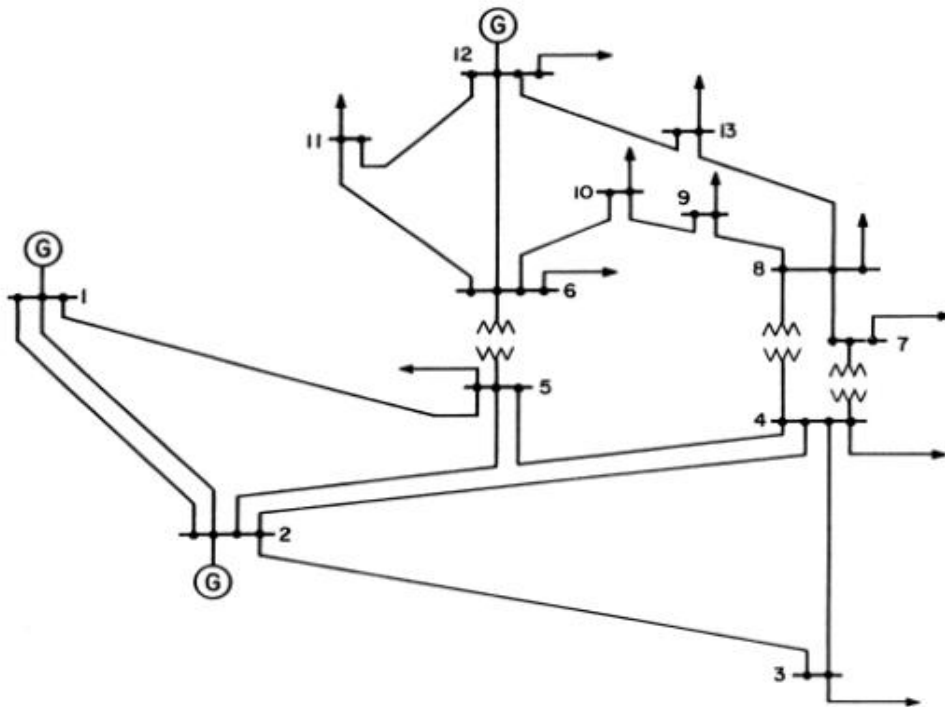

Figure 1. A single-line diagram of 13 Bus Power System
Problem Statement: You will have to solve the load-flow problem for a typical 13-bus power system which is shown in Figure 1, based on the data provided for this power system in page-3 of this pdf.
- A. Conduct a load flow study on the power system shown in Figure 1 with the help of MATLAB code using **Gauss-Seidel** and **Newton-Raphson** methods. Which technique does give a better load flow solution in your opinion? Use **relevant mathematical figures of merits** to justify your answer. You must prepare a table with all the relevant parameters (Voltage, Power, line flows, line losses etc.) of the 13 bus system. A sample table has been shown.